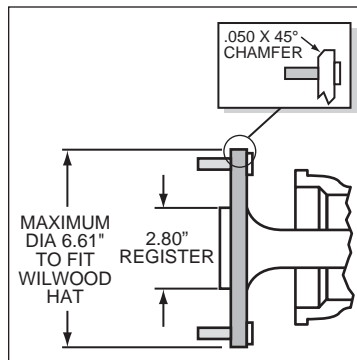

Figure 3. Axle Flange Maximum Dimension
- Axle center register diameter is 2.80", Figure 3. This kit uses Wilwood's removable center register adapters. Rotors can either be centered on the axle register, i.e. *register-centric* or centered on the wheel studs, i.e. *stud-centric*. Due to variations in wheel stud final diameters, *register-centric* centering can be a more accurate method of centering the rotor to the axle. Wilwood offers various diameter adapters for purchase in addition to the ones supplied in this kit, see Table 1.
- Maximum axle flange diameter must be no larger than 6.61" w/.050" x 45° chamfer (see Figure 3).
- Slide the bracket kit assembly (1) onto the housing flange and then insert the axle assembly through the center hole of the bracket kit assembly (1). Secure using the stock Original Equipment Manufacturer (OEM) bolts and nuts. Stock OEM hex nuts that retain the bracket kit assembly (1) should be on the wheel side of the bracket. Apply red *Loctite*® 271 to the stock OEM bolt threads and torque to OEM specifications. Make sure the bracket kit assembly (1) brake pads are FACING OUTWARD TOWARDS THE WHEEL.
- With the larger I.D. side of the rotor (3) facing away from the hat (2), bolt rotor (3) to hat (2) through the backside of the rotor using washers (4) and bolts (5). Using an alternating sequence, apply red *Loctite*® 271 to the threads and torque bolts to 155 in-lb. For an added measure of security, the bolts may be safety wired using standard 0.032 inch diameter stainless steel safety wire as shown in Figure 3. Please refer to Wilwood's data sheet DS-386 (available at www.wilwood.com/Pdf/DataSheets/ds386.pdf) for complete safety wire installation instructions.